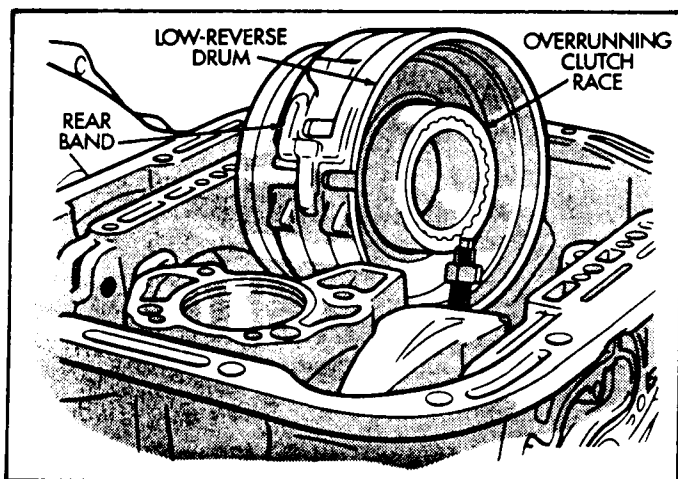

Figure 27
42. Remove the low/reverse drum and rear band as an assembly, as shown in Figure 27. Turn drum clockwise and pull out to remove it from overrunning clutch.